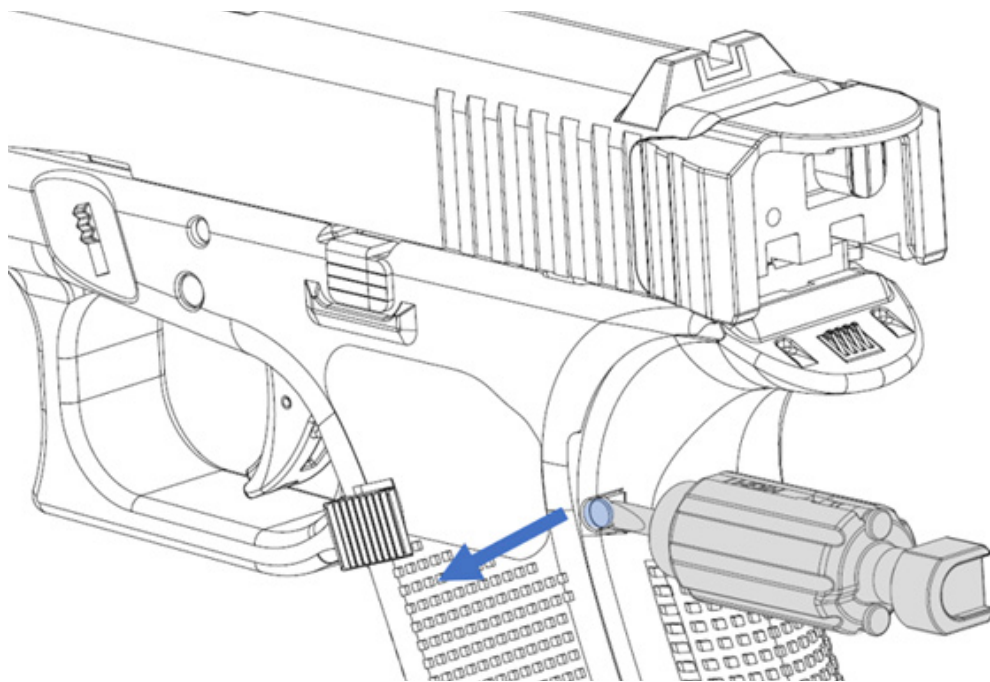

Figure 110: One Notch Metal Pin disassembly procedure.
2. Insert the screwdriver tip of the Assembly Tool between the one-notch pinhead and the RISCpro Backstrap. Push the Metal Pin out until it can be removed. Store the Metal Pin in the Assembly Tool body for later reassembly (Figure 110).